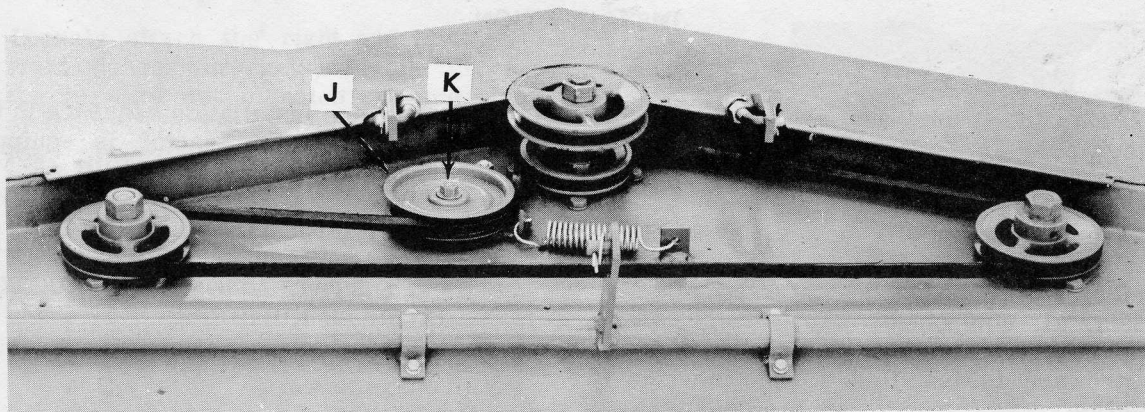

Figure 7. Deck Belt Installation
6. The deck belt is automatically tensioned by a spring loaded idler pulley, Reference "J", Figure 7 and adjustment is not required.
Place a 9/16-inch box wrench over the hex nut, Reference "K", Figure 7, on the idler pulley and pivot the idler pulley towards the front of the mower until the belt can be easily placed over the back side as shown. Check to make sure the belt is not twisted before replacing covers.